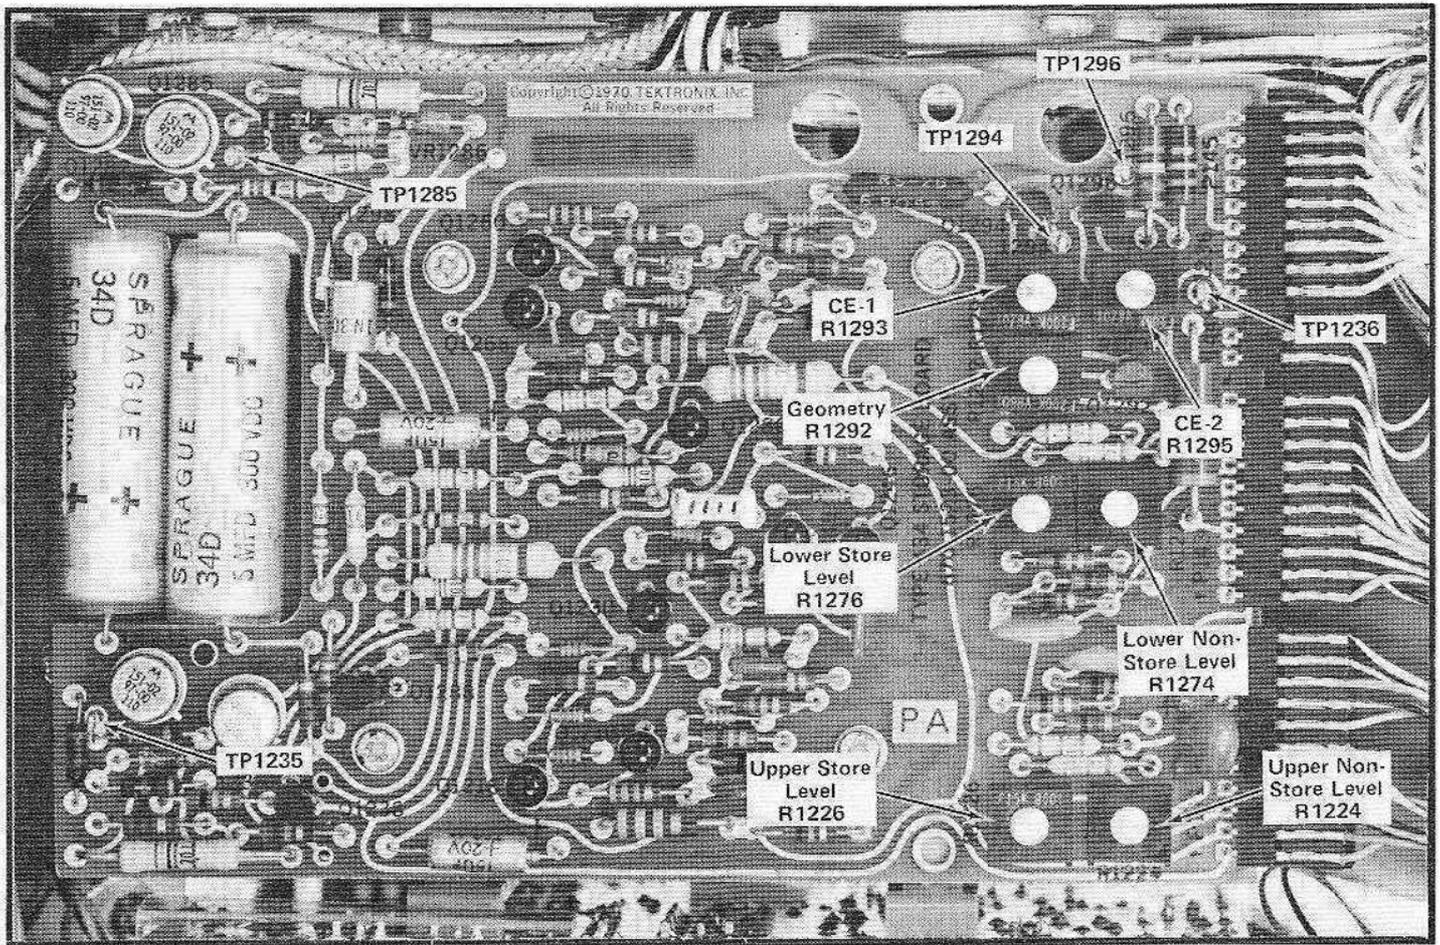

Fig. 5-6. Location of storage circuit adjustments and test points.
b. Connect the minus lead of a DC voltmeter to test point TP1236 and the plus lead of the meter to test point TP1294. See Fig. 5-6 for test point locations.
c. Adjust R1293 (CE-1, see Fig. 5-6) for a meter reading of 100 volts.
d. Move the plus lead of the meter to test point TP1296 (see Fig. 5-6).
j. Set the UPPER SCREEN STORE button to non-store (button out) position and move the plus lead of the meter to test point TP1285 (see Fig. 5-6).
d. Connect the plus lead of the DC voltmeter to test point **TP1235** (see Fig. 5-6).